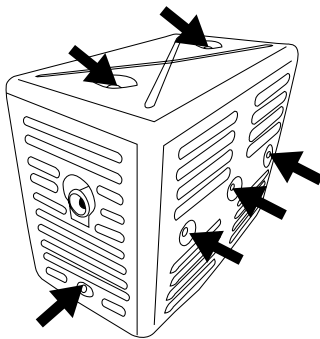

Figure 18: Remove screws holding muffler cover
3. Remove the 6 screws holding the muffler cover in place (see Figure 18).